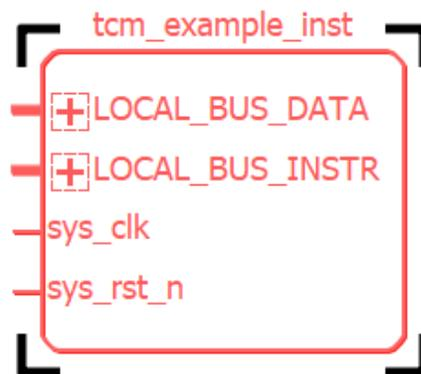

Figure 3.5. Generating TCM IP Instance
- The TCM IP instance is successfully generated, as shown in (Figure 3.5).